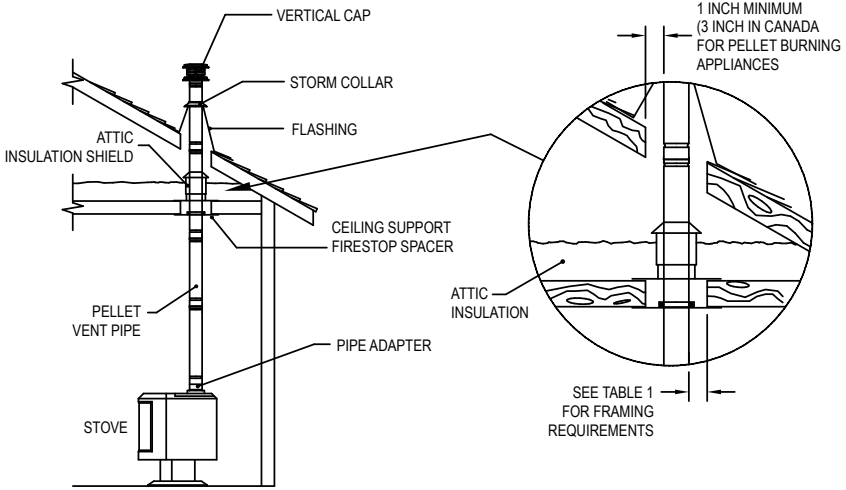

Figure 1
2. If the vent exit is on top of the stove (**Figure 1**):
F. When the PelletVent enters the Attic, install an Attic Insulation Shield around the vent (**Figures 1 & 3**). This will prevent insulation and debris from collecting near the vent pipe. Use (4) wood screws to secure the base of the Attic Insulation Shield to the framed opening. Adjust the height of the Attic Insulation Shield by sliding the top cylindrical shield over the one from the base. Insure that the top of the Shield is above the level of building insulation. Secure the Shield in place with at least two (2) sheet metal screws through the side of the cylindrical shield. Attach collar around the top of the Attic Insulation shield.